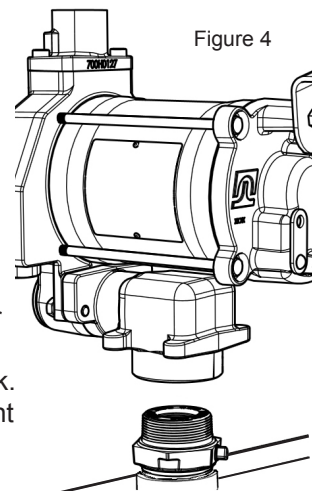

Figure 4
- 5) Apply an anti-sieze thread compound to the external threads on the bottom of the bung adapter. Install the assembled bung adapter and suction pipe into the bung opening on the tank. Tighten to a fluid / air tight seal (Figure 4).